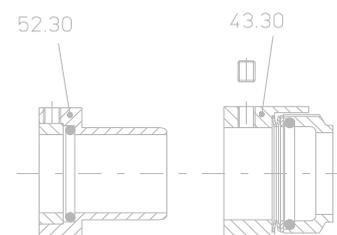

Fig.5
13. Remove mechanical seal rotary element 43.30 from the shaft sleeve 52.30 (fig. 5)